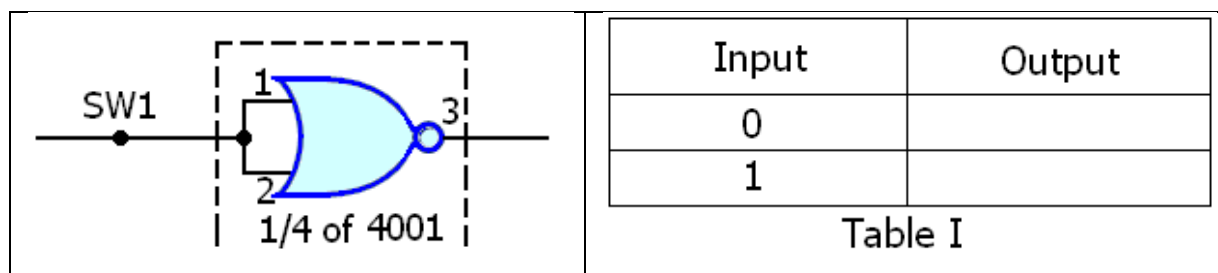

Fig. 2-2
- Connect one of the four gates in the IC, as shown in Fig. 2-2. The input comes from data switch SW1. You will measure the input and the output states with your DC voltmeter.